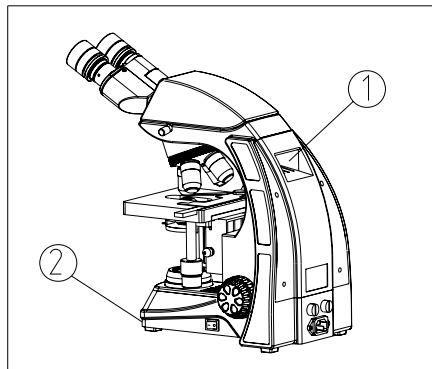

Fig. 1
3. When moving the microscope, use both hands to hold its back hand-clasp ① and the front base ②, and lay it down carefully (see Fig. 1).